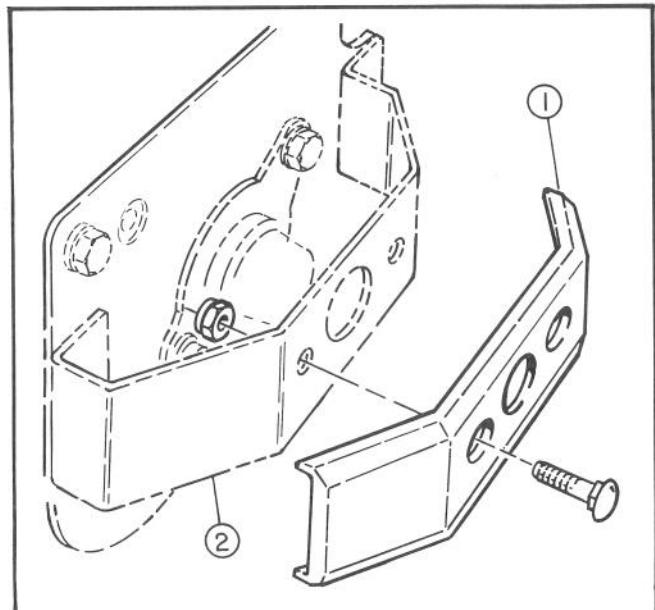

Figure 3
E. On the #4 and #5 cutting units remove 4 self tapping cover capscrews located at the opposite end of the cutting unit drive housing (Fig. 3). Discard cover screws. Drill four 9/32" holes completely through cutting unit tubes using the self tapping screw holes as a pilot (Fig. 5). Holes will be used later to mount #4 and #5 tipper brackets.